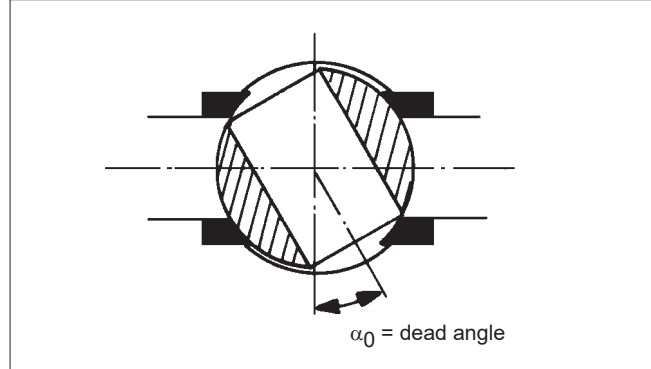

Fig. 13. Zero and range adjustments
- Set the input signal at the closed limit of the valve so that it is 2 % i.e. 0.3 mA higher or lower than the limit value, (e.g.  $4 + 0.3 = 4.3$  mA or  $20 - 0.3 = 19.7$  mA). Turn the zero adjustment nut (61) with a screwdriver or fingers so that the actuator comes slowly to the closed limit. The valve should open slightly with a 4 % change in signal, that is 0.6 mA, (e.g.  $4 + 0.6 = 4.6$  mA or  $20 - 0.6 = 19.4$  mA). See Figure 13.
Check the condition of the O-rings (43 and 47) and of the gasket (45). The end of the leaf spring on the beam must be on top of the pilot valve spool (Figure 13). Make sure that the end of the beam (5) goes into the spool groove without sideways deflections. After tightening the nuts (49), check the beam once again by hand to see that the pilot valve moves readily.